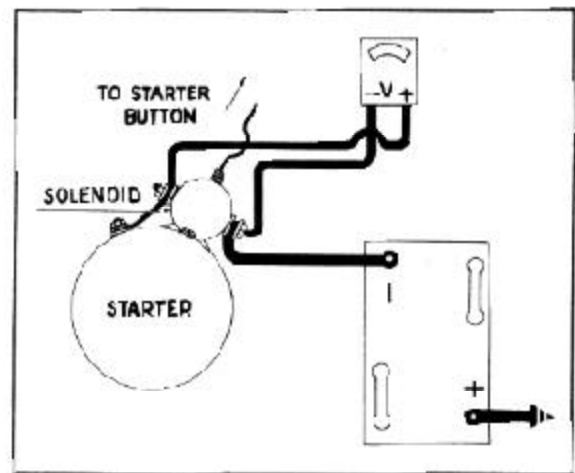

FIGURE 9
1. Connect negative voltmeter terminal of starter solenoid switch and positive lead to motor terminal of the solenoid switch, Figure 9.